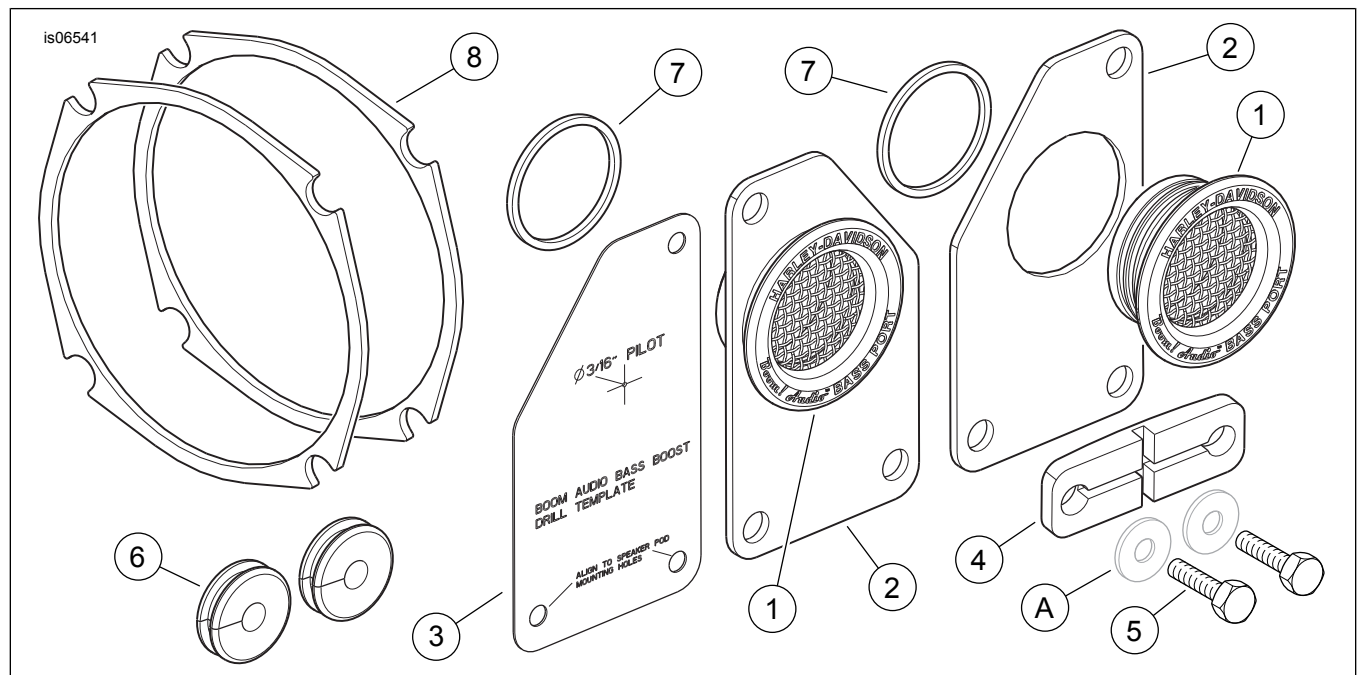

Figure 1. Service Parts, BOOM! Audio Bass Booster Tour-Pak Port Kit
See Figure 1 and Table 1.
7. See Figure 1. Get the drill template (3) from the kit. **If NOT equipped with power port: If equipped with power port:**